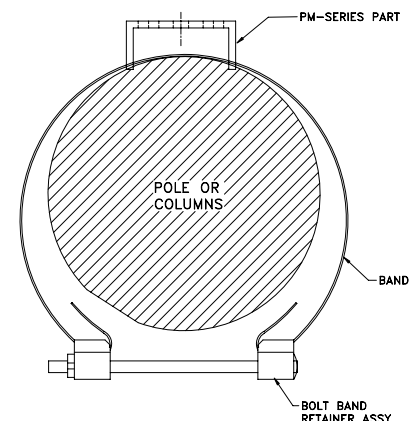

Figure 3: Pole Strap Illustration
Step 3: Secure the Pole Adapter to the pole or column: (Figure 3)